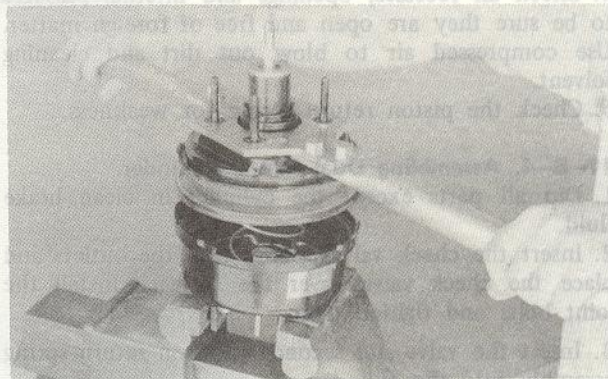

Fig. 11-21 Removing rear shell
5. Attach a suitable wrench to the studs of the rear shell as shown in Fig. 11-21. Rotate the rear shell clockwise to unlocked position.